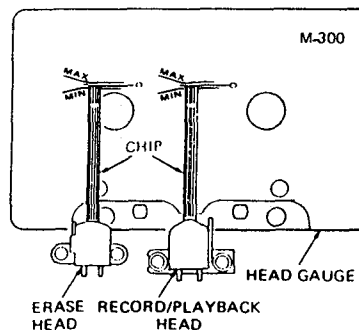

Fig.2
- b) Set the unit in the playback mode and place the adjustment chip on the head gauge as show in the Fig. 2.